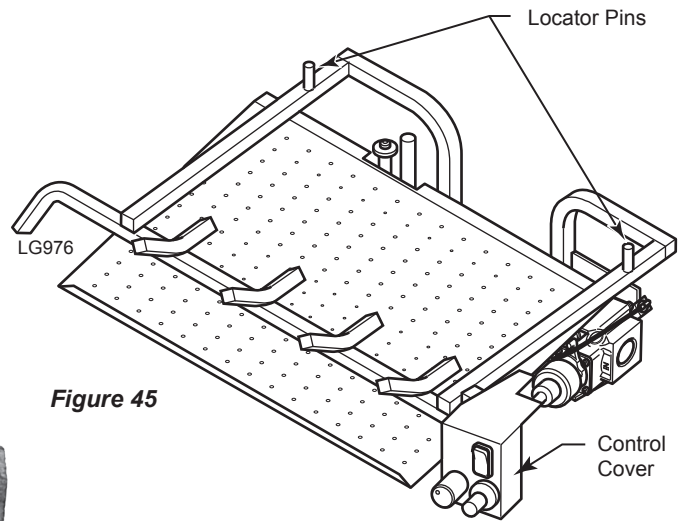

Figure 45
1. Place back log (#1) on back of base aligning two (2) pins on base with holes in bottom of log. *Figures 45 and 46*